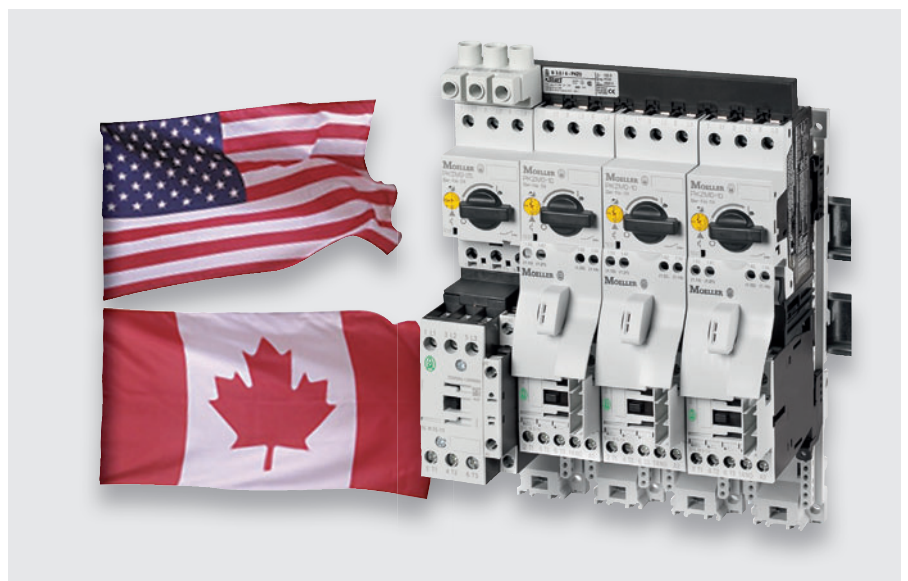

Figure 1:
- Type F Combination Starter (Figure 1)